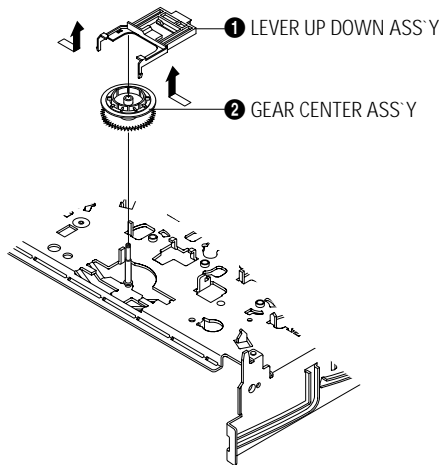

Fig. 4-26 Lever Up Down Ass'y Removal
- 1) Remove the 2 hooks in the direction of arrow as shown Fig. 4-26 and lift the Lever Up Down Ass'y ❶.
- 2) Lift the Gear Center Ass'y ❷.